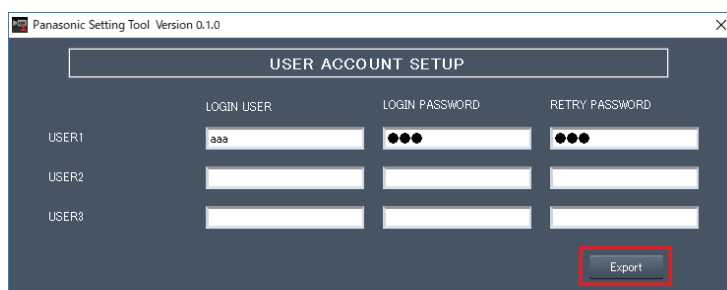

Fig. 1
You can register user accounts for a maximum of 3 people. (Fig.1)
- 3 Click the [Export] button. (Fig.1)